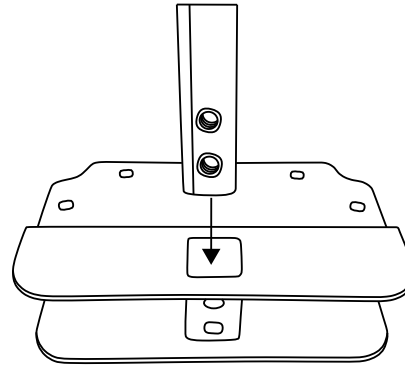

Fig. 3
2. Align and insert the 2-Hole Hitch Tongue with Plug inserted into the Main Support Hub **(Fig. 3)**.